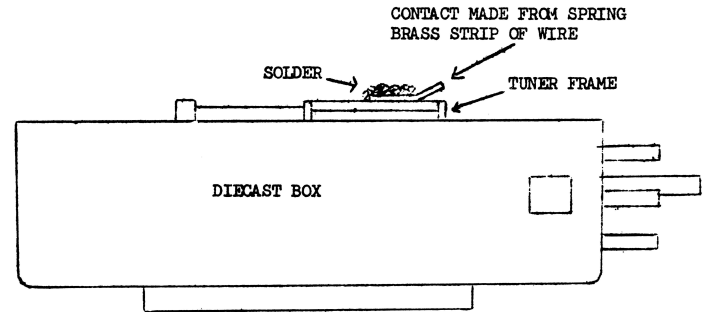

FIGURE 1
- a) Reverse grey and white leads at right hand end of tuner (see FIG. 1).
- d) Connect 330 ohm  $\frac{1}{2}$  watt resistor, leaving one pigtail long enough to extend and solder to negative rail (see FIG. 1).
- f) Connect a green lead of sufficient length to connect between base of Q6 and collector of Q5. Pass lead around end of PC board. (FIG. 1).
If interference persists, remove plastic rear lid from set and check fit of die cast lid on module box. This lid must make a firm electrical contact around its perimeter. This is especially important around the area near the push button switch. In stubborn cases, a small contact soldered to the top of the tuner frame and arranged to contact the under side of the die cast lid will help. See FIG.1.